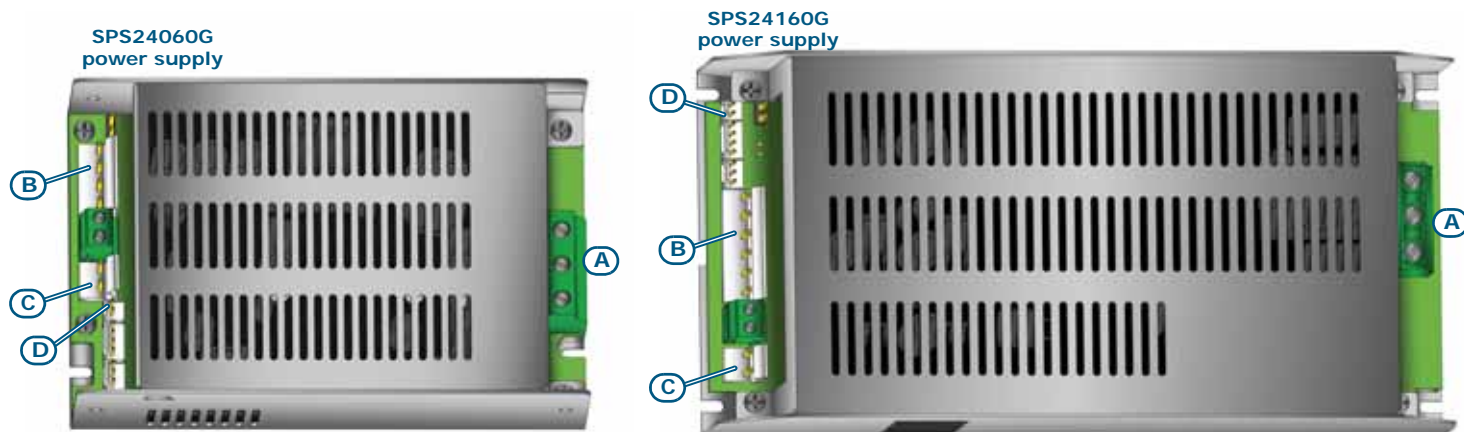
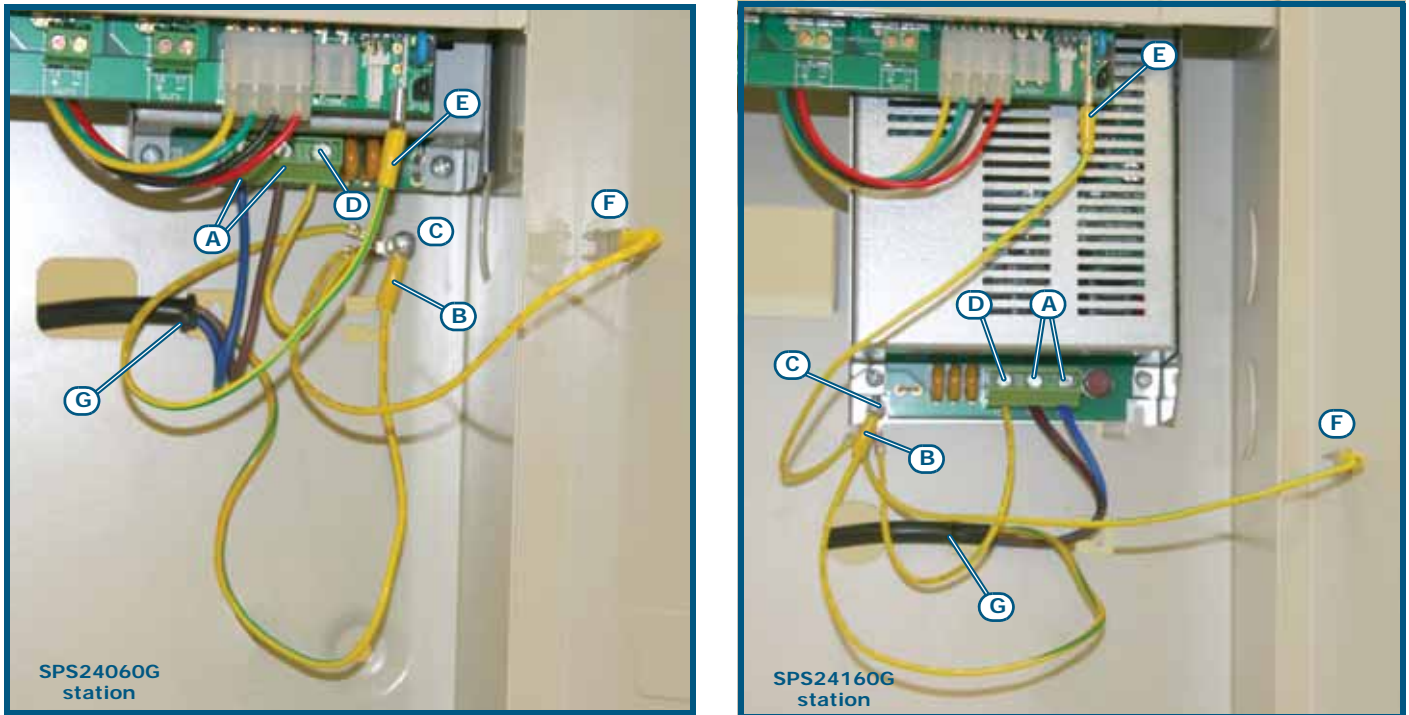

Figure 9 - Switching power supply
Figure 13 - Earthing system
1. Connect the mains power supply to the terminals on the power-supply module (*Figure 9 - Switching power supply, [A]* and *Figure 13 - Earthing system, [A]*).
6. Insert the two 12V batteries and connect them to the power supply module (Figure 9 - Switching power supply, [C]).